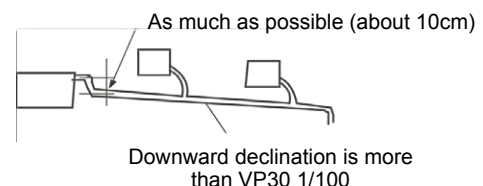

Figure 4.2 Centralized Drain
- 6) Follow Figure 4.2 for the piping when you install the drain pipe in the centralized way.